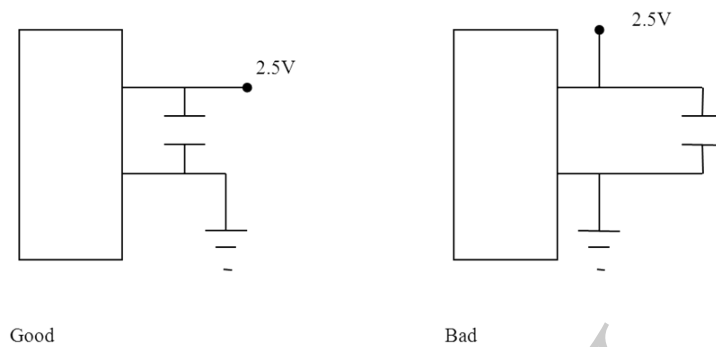

Figure 4.13: Layout for MT3302 Pin 12, 37, 40 and 52.
- It is recommended to follow the layout topology for MT3302 pin 37, 12, 40 and 52 as in Figure 4.13.